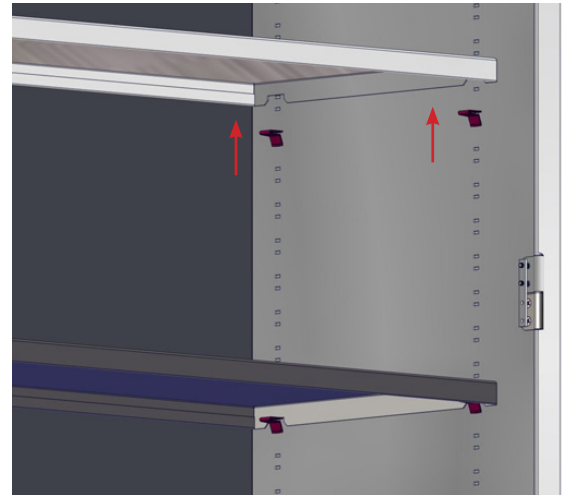

Fig. 23: Remove Shelf from Support Tabs
2. Remove the shelf and determine its new position (Fig. 23).